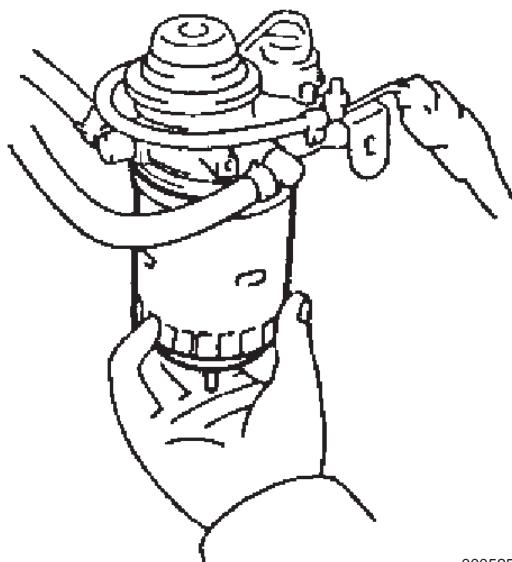

Figure 6-6
6. Inspect and clean the fuel filter mounting surface. Apply clean diesel fuel to the gasket of the new fuel filter and hand tighten the fuel filter until the gasket comes into contact with the seat then tighten the filter an additional 3/4 turn then torque to: 150 to 200 kgf·cm, 14.71 to 19.61 N·m (10.8 to 14.7 lb·ft) (Figure 6-6).